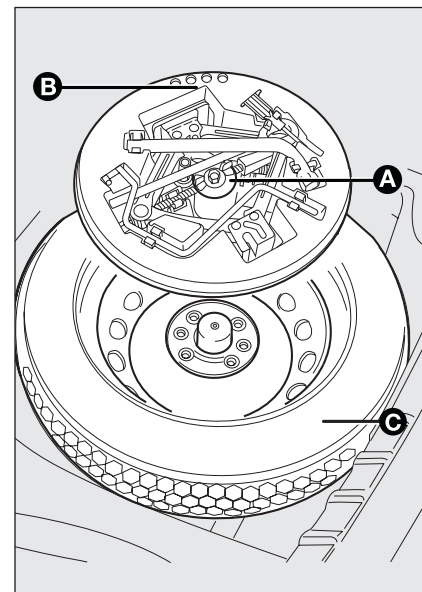

fig. 10
- ☐ loosen the fastening device **A**-fig. 10;